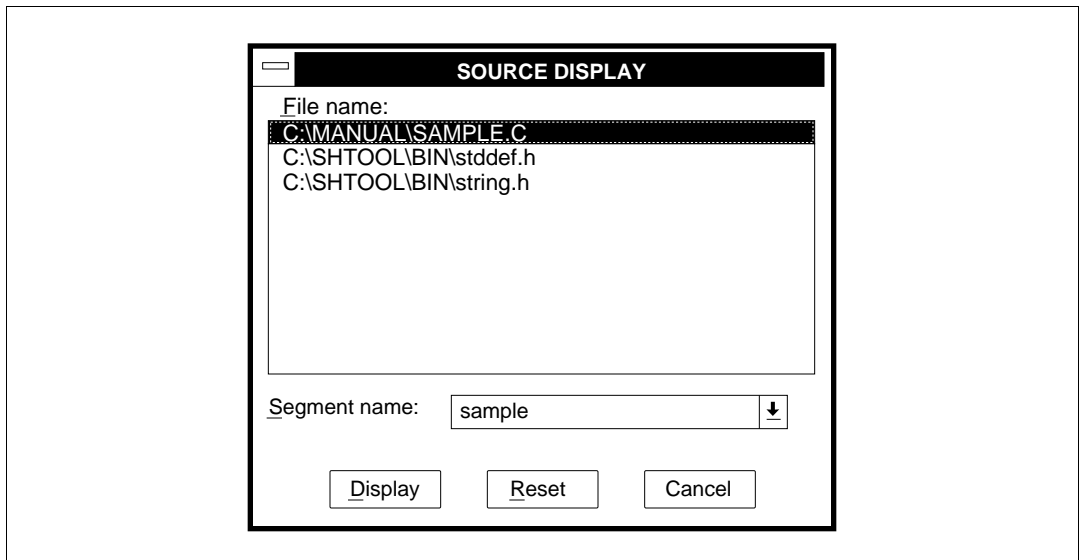

Figure 4-9 SOURCE DISPLAY Dialog Box
- (1) Select the [Source - Display...] command from the View menu; the SOURCE DISPLAY dialog box shown in figure 4-9 appears.
- (2) For a multi-load module, specify the target segment in [Segment name :].
- (3) Select from [File name :] the file name to be displayed in the source area by placing the mouse pointer on the file name and clicking it.
- (4) Click the <Display> button to display the source file in the source area.